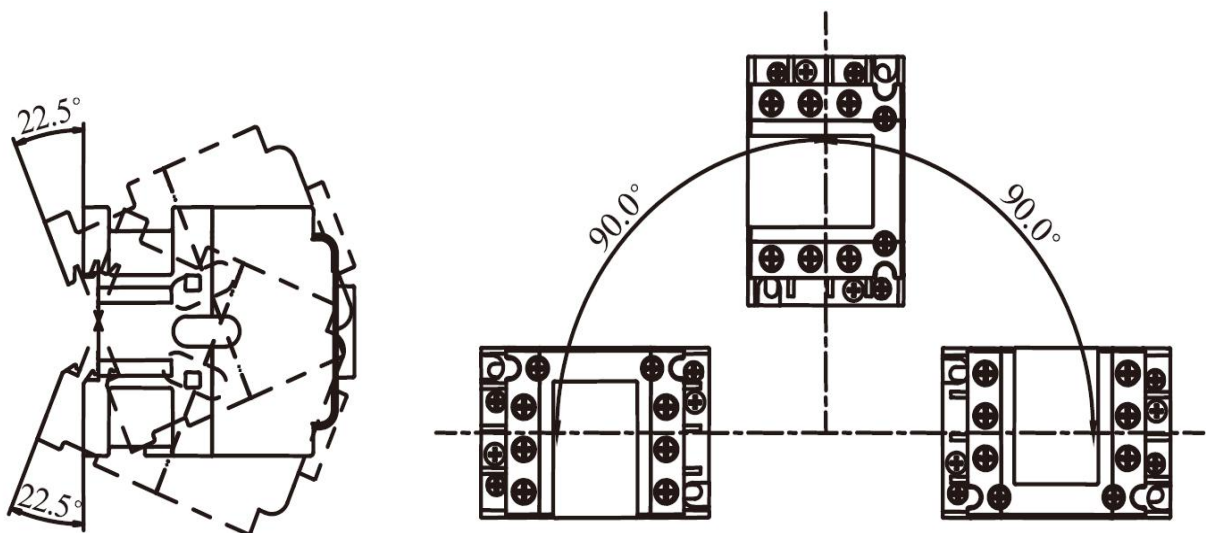

Figure 4. Installation requirements
- Product installation requirements are shown in Figure 4.